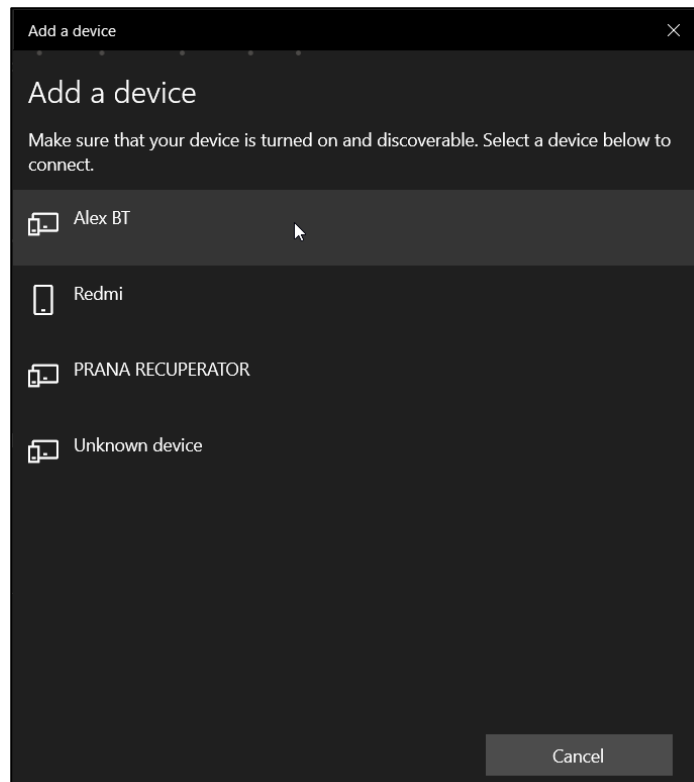

Fig. 5 Searching for Bluetooth devices in Windows 10.
5. The next window shows the process of searching for available Bluetooth devices. Select the desired device, the default name is *ALEX BT* (Fig. 5).